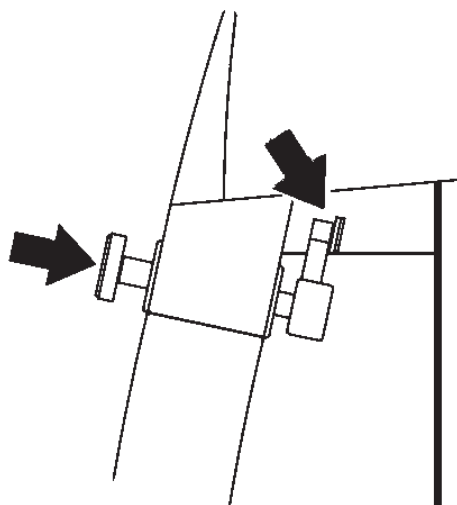

Figure 3.0-3
2. To unlock and let the slide with the tool go down: push the button with the thumb in the direction of the arrow, until the resistance increases (Fig. 3.0-3).